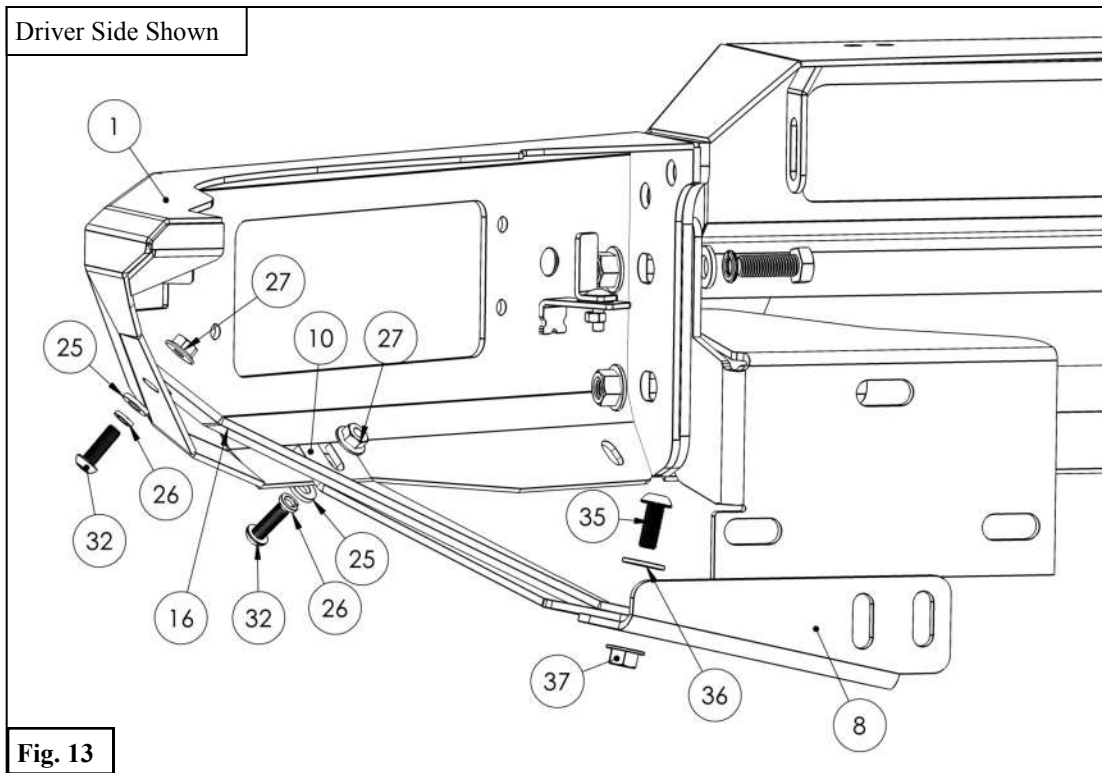

**Fig. 11**
- Loosely attach the preassembled bumper to the vehicle frame using the Factory Hardware. See **Figure 11**.